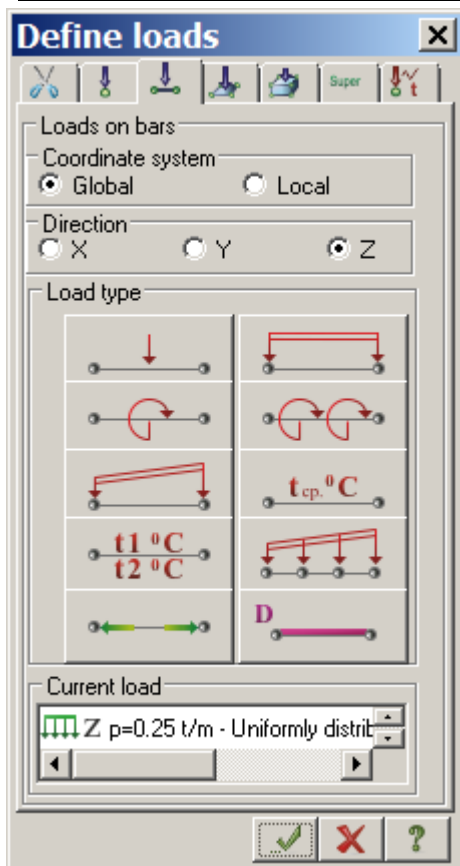

Figure 5.18 Define loads dialog box
- ⇒ In the **Define loads** dialog box (see Fig.5.18), specify **Global** coordinate system and direction along the **Z-axis** (default parameters).